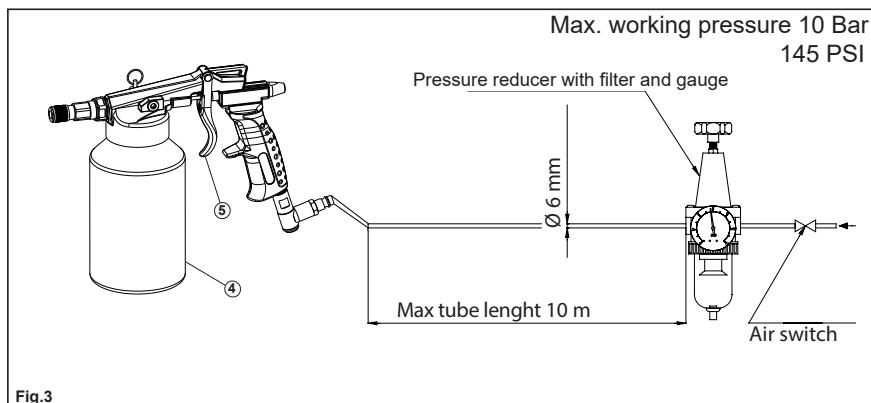

Fig.3
**⚠** A disconnection switch and a pressure reducer with filter and gauge have to be between the airco well® Pressure Cup Spray Gun and the compressed air system, and the connection hose must not be any longer than 10 m. (Fig.3).
**⚠** Always disconnect the air supply before operating on the airco well® Pressure Cup Spray Gun or taking away the tank (4).
9.2 For the pneumatic connection to the air supply, see point 8.1 Fig.3.